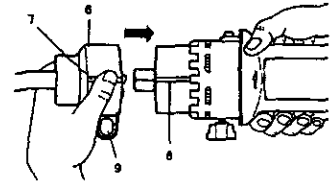

Fig. 31
6. Align the flexible shaft connector cap (6) with the Cutting Tool motor housing (8) (see Fig. 31).